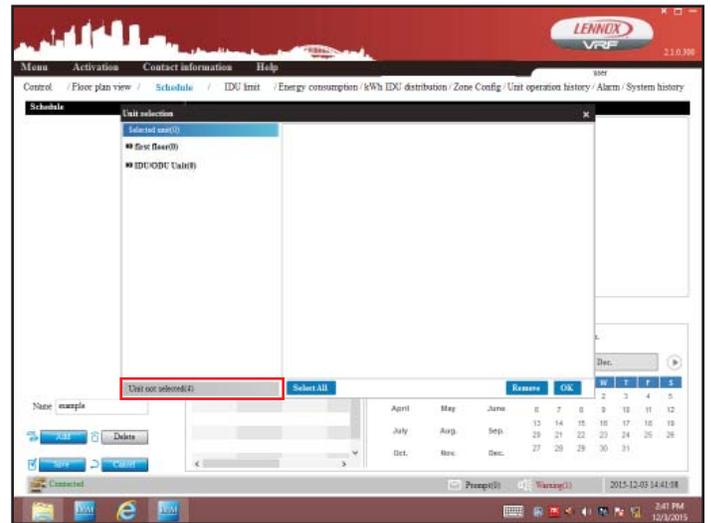

Figure 27. Identify Indoor Units Not In a Schedule
5. On the bottom left of the popup window, Tap the 'Unit not selected' (next to the Select All button). All indoor units not assigned to other schedules will display. See figure 27.